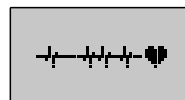

Fig 23
4. Simulative ECG with measured heart rate (Fig 23)